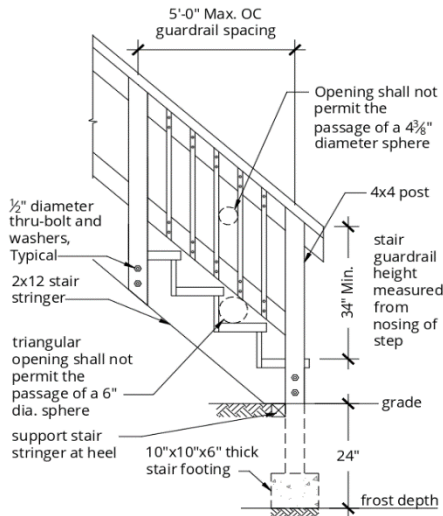
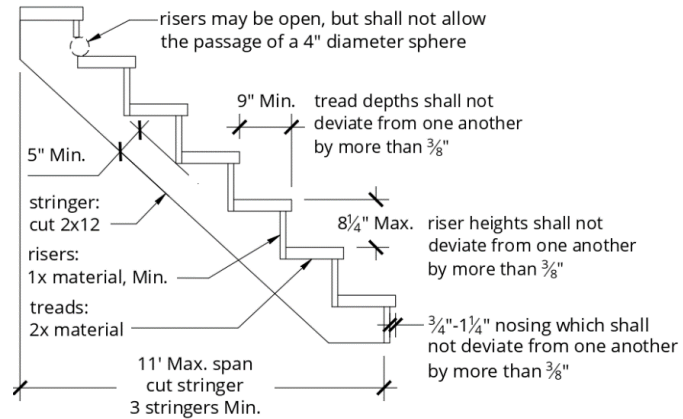

FIGURE 35 - STAIR GUARD CONSTRUCTION
FIGURE 36 - STAIR CONSTRUCTION
- Stair geometry and opening limitations shall be in accordance Figure 35 and Figure 36.
- Throat size of cut stringers shall not exceed the value shown in Figure 36.
- Stair guards shall be constructed in accordance with the Guard Section and Figure 35.